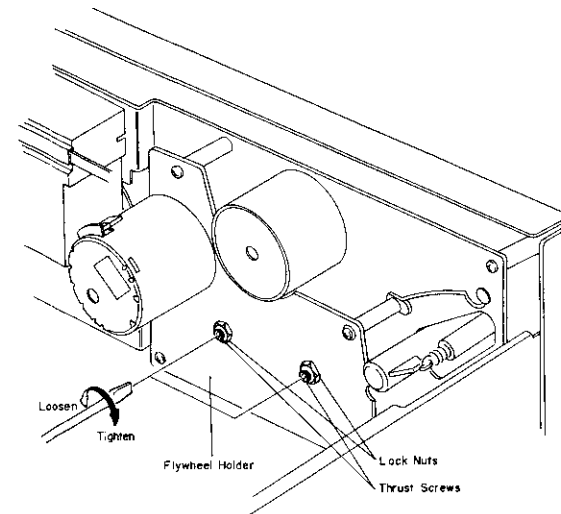

Fig. 4.25
- (1) Refer to Fig. 4.25. Tighten the Thrust Screws until the gap between the Flywheel Assemblies and Thrust Screws becomes minimized when both of the Capstan Shafts are moved backwardly and forwardly (the Thrust Springs between the Capstan Flanges and Flywheel Thrust Caps are in a flat state). Excessive tightening of the Thrust Screws however will give damages on the Flywheel Assemblies, to which careful attention is invited.
- (2) Return the Thrust Screws by 1/2 turn.
- (3) Fixing the Thrust Screw with a screwdriver, lock the Lock Nut.
- (4) Apply a quantity of lock tight paint to the Thrust Screws.